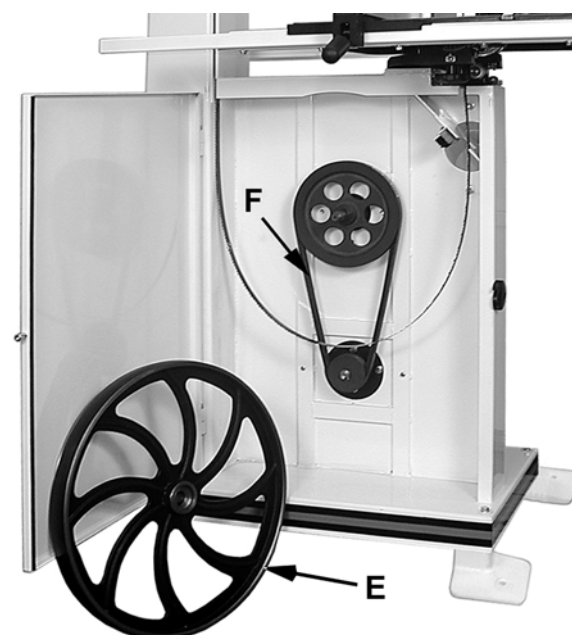

Figure 27
5. Remove the *wheel* (E, Fig. 27). If the lower wheel does not come off easily you may need to use a pulley puller to remove it.
6. Remove the *old belt* (F, Fig. 27) and install the new belt.